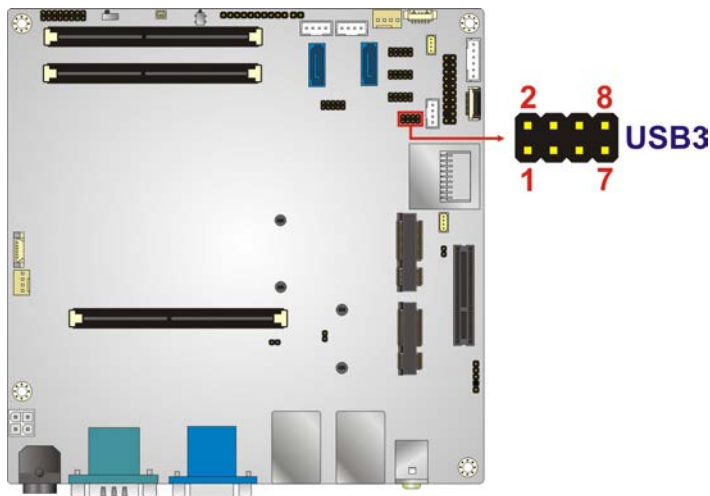

Figure 3-28: USB Connector Locations
- CN Location:** See **Figure 3-28**